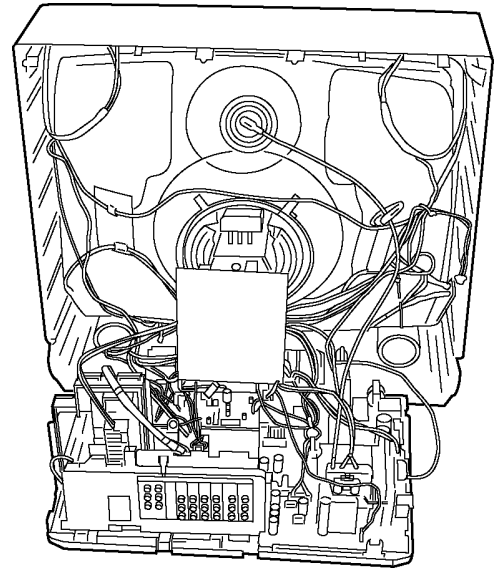

Fig. 3.
1. Hold and lift the rear of the chassis and gently pull the chassis toward you, as shown in Fig. 3.